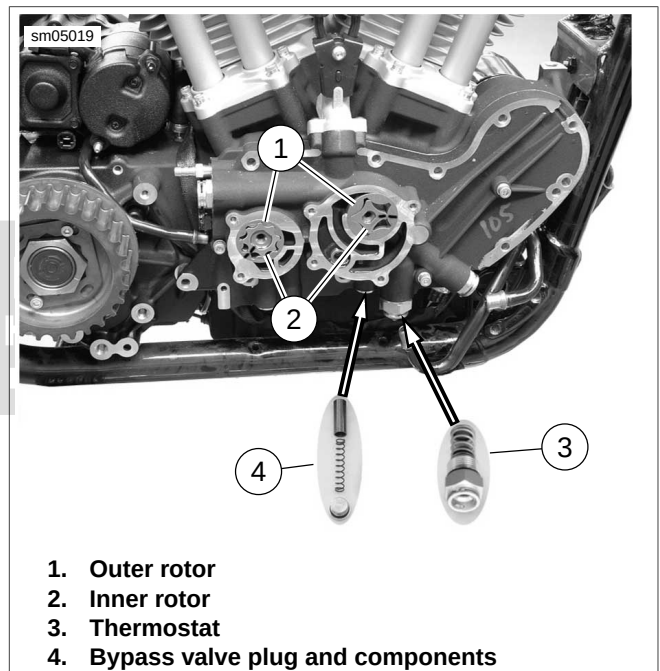

Figure 3-171. Oil Pump: XR Models
6. See Figure 3-171. Wipe the oil film from the exposed surfaces of the rotors (1, 2) and mark each rotor using a permanent marker to aid in reassembly.
3. See Figure 3-171. Install bypass valve components (4). Tighten plug to 108-156 **in-lbs** (12.2-17.6 Nm).
4. Install thermostat and oil cooler line fitting (3).